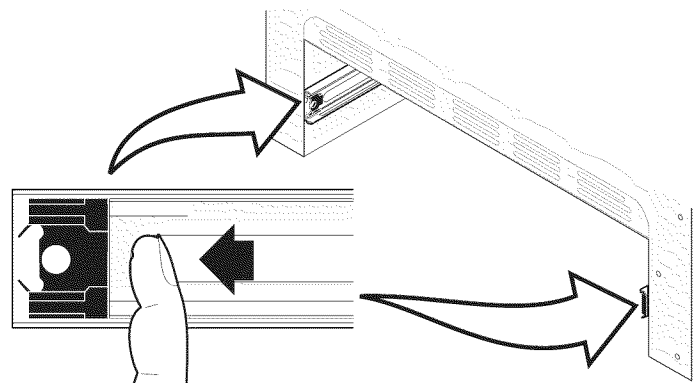

Fig. 3
1. Pull the bearing glides to the front of the outer compartment glide channels until they snap into place (See Fig. 3).